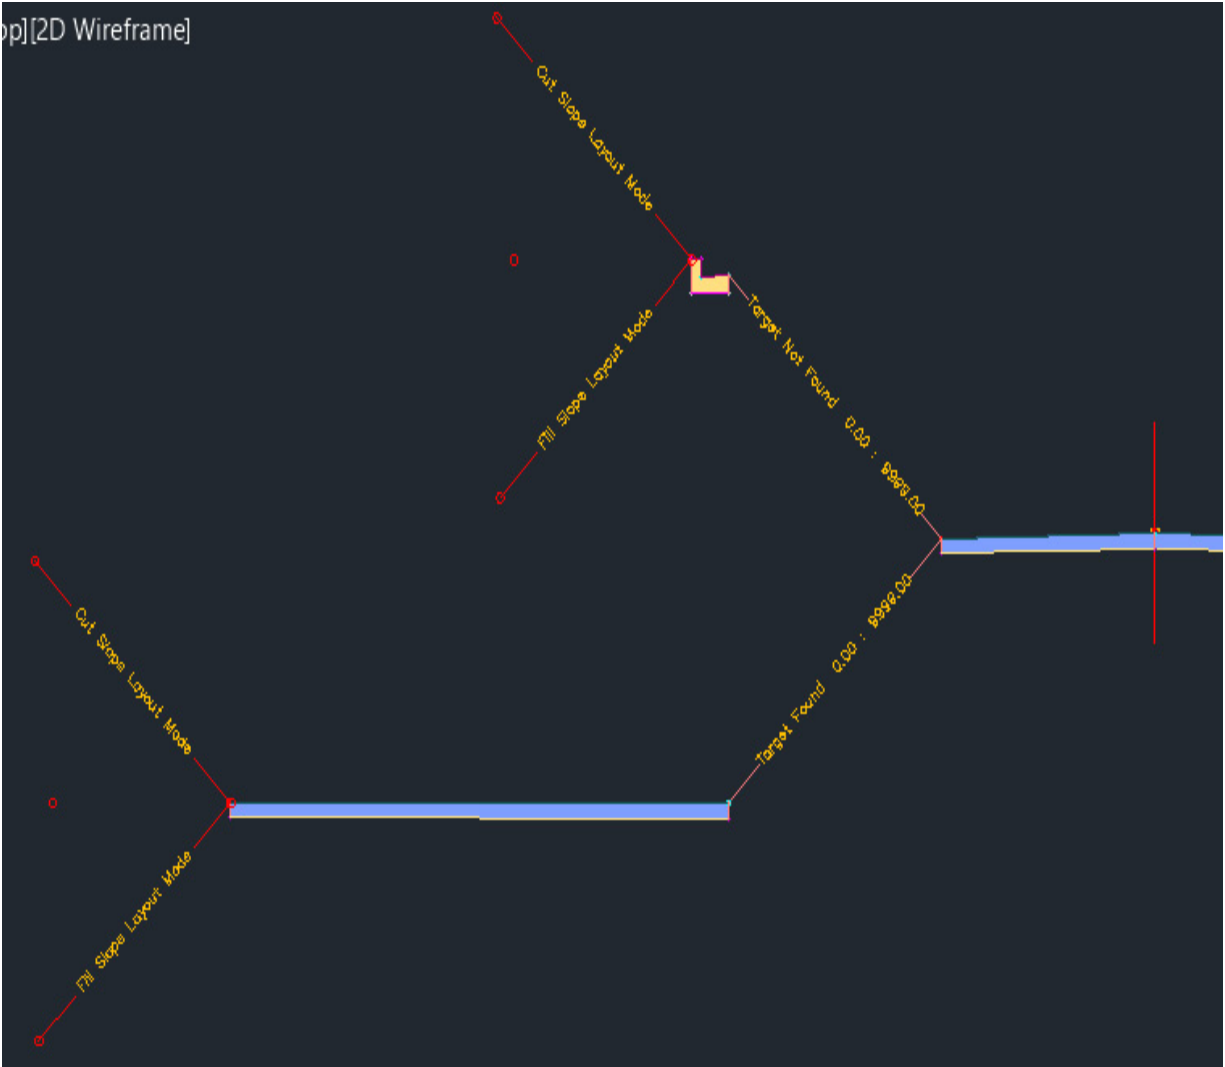

Figure 11.6 – Updated subassembly
8. Using the **Copy** command in the **Modify Subassembly** panel, we'll copy the **BasicSideSlopeCutDitch** subassembly to the end of the newly copied **BasicLane** subassembly, with the final output looking similar to that shown in *Figure 11.6*: